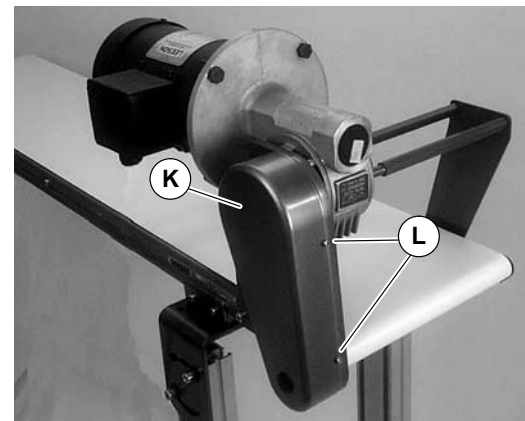

Figure 18
11. Install cover (K of Figure 18) with four screws (L). Tighten to 35 in-lb (4 Nm).
1. Remove four screws (L of Figure 18) and remove cover (K).
4. Install cover (K of Figure 18) with four screws (L). Tighten to 35 in-lb (4 Nm).
6. Install cover (K of Figure 18) with four screws (L). Tighten to 35 in-lb (4 Nm).